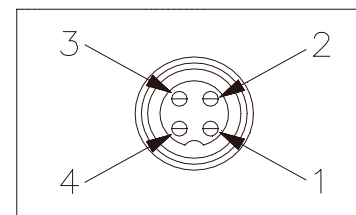

Fig. 3 Microphone plug pin numbers viewed from rear of pin receptacle.
8. The wires must now be soldered to the pins as indicated in the above wiring tables. If a vise or clamping tool is available it should be used to hold the pin receptacle body during the soldering operation, so that both hands are free to perform the soldering. If a vise or clamping tool is not available, the pin receptacle body can be held in a stationary position by inserting it into the microphone jack of the front panel. The numbers of the pins of the microphone plug are shown in Fig. 3, as viewed from the back of the plug. Before soldering the wire to the pins, pre-tin the wire receptacle of each pin of the plug.